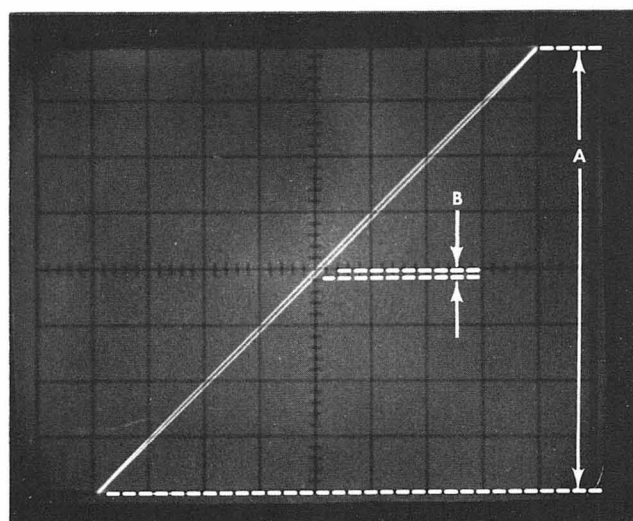

Fig. 5-9. Typical display when checking phase difference.
d. Adjust X Gain so the horizontal display width is 8 centimeters. See Fig. 5-9.
e. CHECK—Measurement B, shown in Fig. 5-9, is  $\leq 1.39$  mm. This indicates a phase difference of  $\leq 1^\circ$  between the X and Y Amplifiers. No opening in the line indicates  $0^\circ$  phase shift.